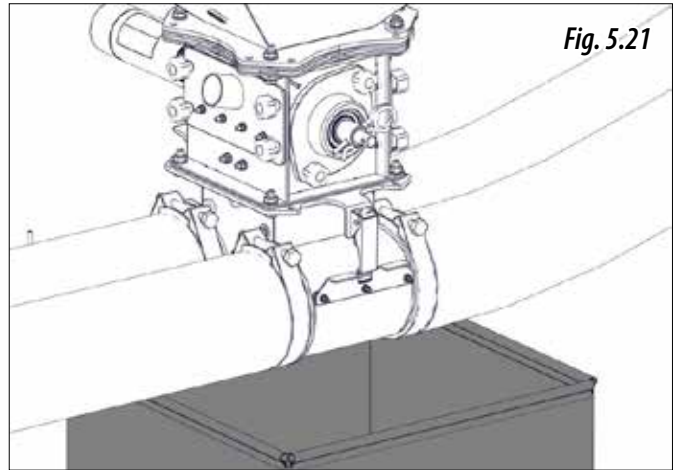

Fig. 5.21
- 4- Empty the product dispensers; to do this, place a sack or container below the dispensers (Fig. 5.21).